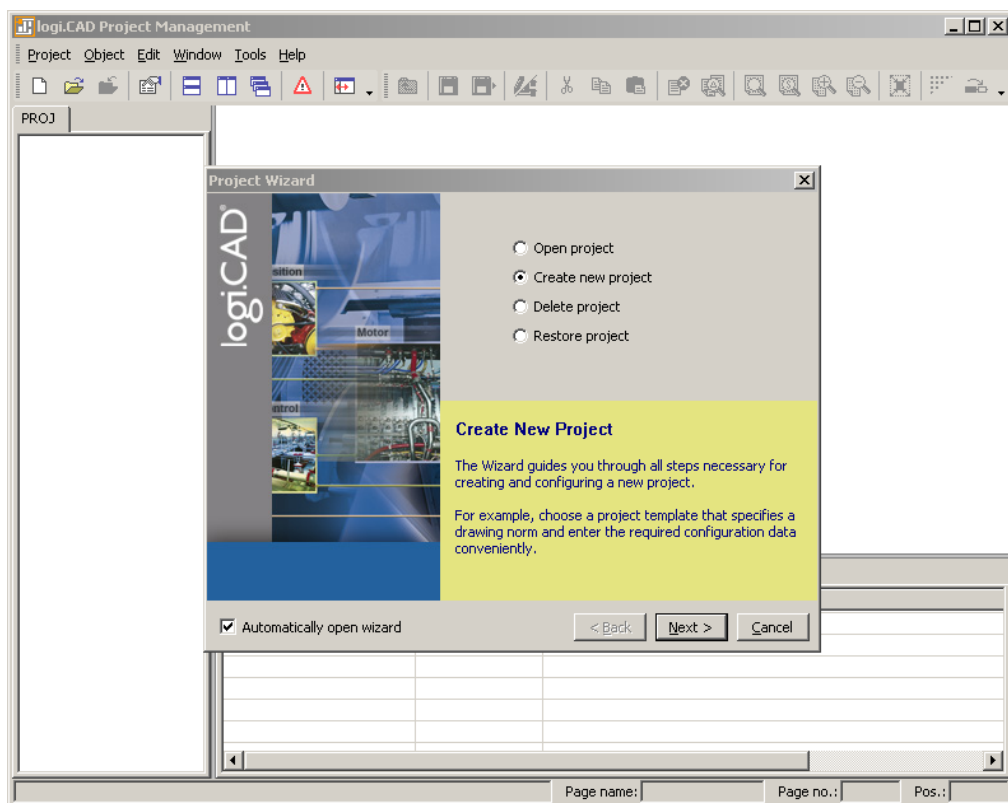

Figure 49: logiCAD project wizard
2. The project wizard starts automatically as shown in Figure 49.